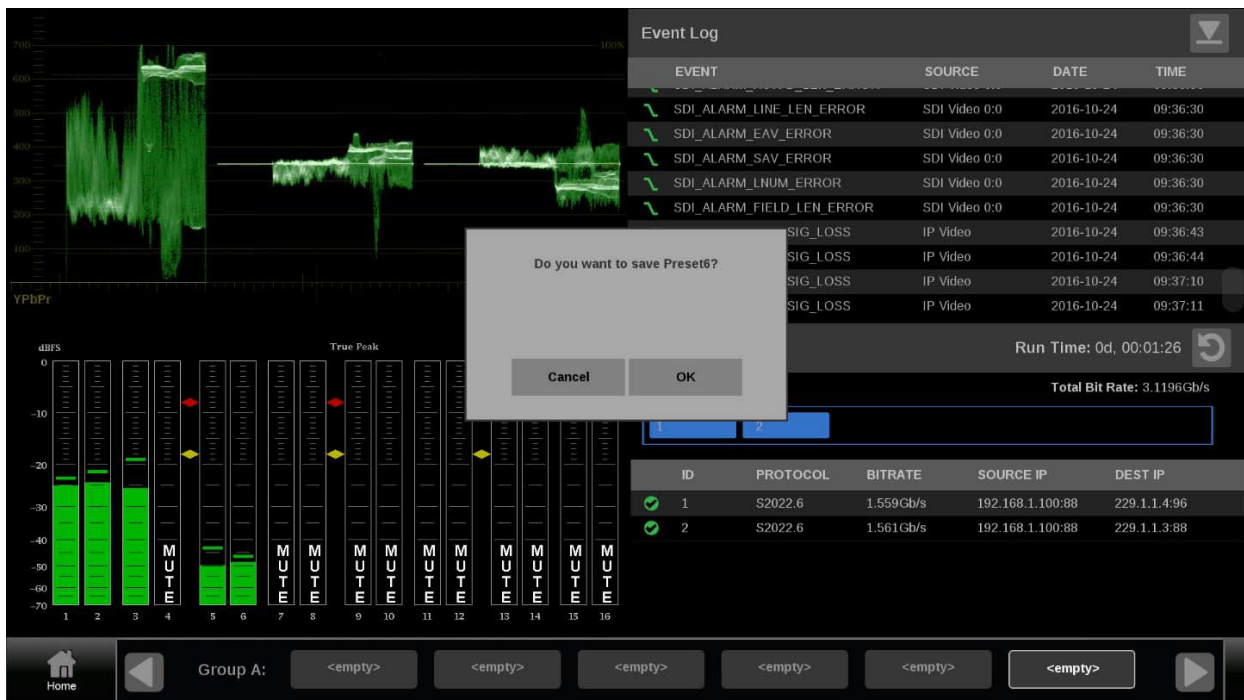

Figure 71: Assign a preset
- c. When you have found the preset group to change, select and hold the preset button to assign the current instrument configuration. The selected preset button is highlighted and a confirmation box appears. In the example, the Group B preset B6 is being saved. (See Figure 71 **Error! Reference source not found..**)